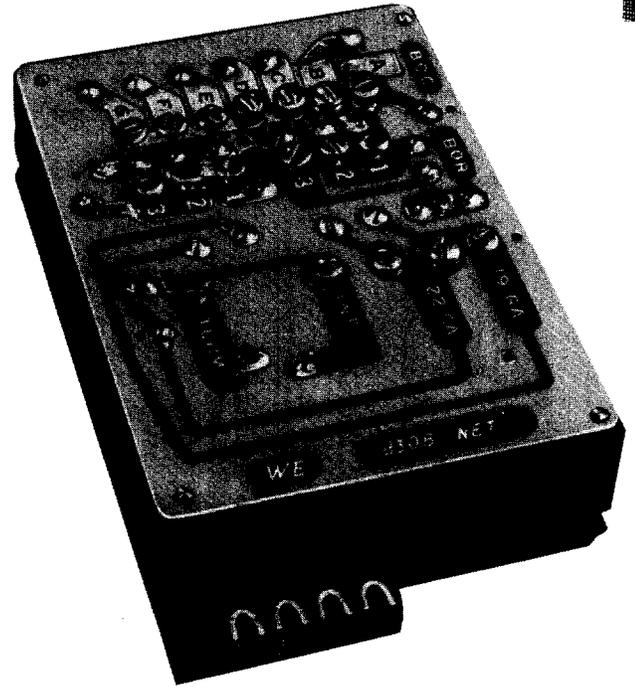

Fig. 1—830B Network
1.01 This section describes the 830B network (Fig. 1). The network is used to build out the input impedance of low-capacitance, 19- or 24-gauge cable with H88 loading or of high-capacitance, 19-, 22-, or 24-gauge cable with D88 loading to match the image impedance of the E6 gain unit (900 ohms in series with 2.16 μ F).